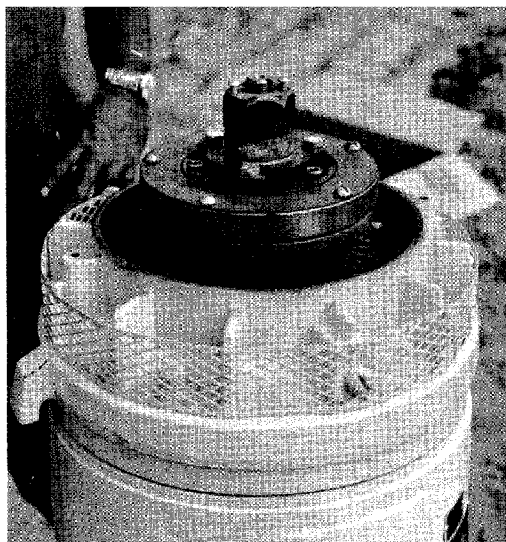

Fig. 15-1. Impeller Adjustment Completed. Lock Screws Shown In Position; Not Yet Tightened.
D. Before any adjustment is made, the impellers will be resting on the lateral bowl wear rings, and considerable resistance due to friction can be felt when turning the shaft by hand. To set the impellers to mid-position, proceed as follows: Screw down the top shaft nut, while restraining the top shaft from turning, until the impellers just clear the seals and the shaft can be turned freely by hand. Scribe a line on the square or acme thread of the top shaft, flush with the top of the nut. Continue to turn down the nut until the distance from the scribe line to the top of the nut is $3/16$ inch plus the total shaft stretch previously determined. Turn the nut an additional few degrees, if necessary, to align two of the holes in the top shaft nut with the tapped holes in the top drive coupling. Install the lockscrews in the top shaft nut. (See Fig. 15-1.)